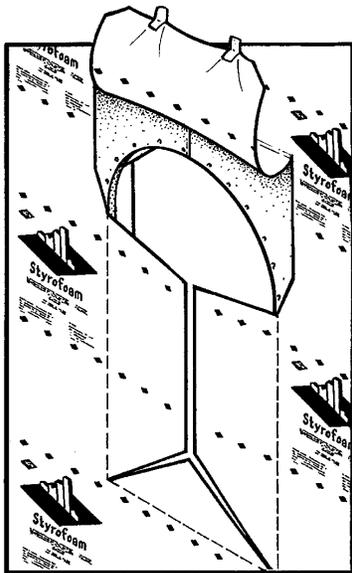

Figure 1
- c. At the top of each jamb where it meets the arch, cut the housewrap 6" at a 45-degree angle. Then make a vertical cut in the housewrap on each side, ending about 2" above the top of the window. Pull up and temporarily fasten above window opening (Figure 1).